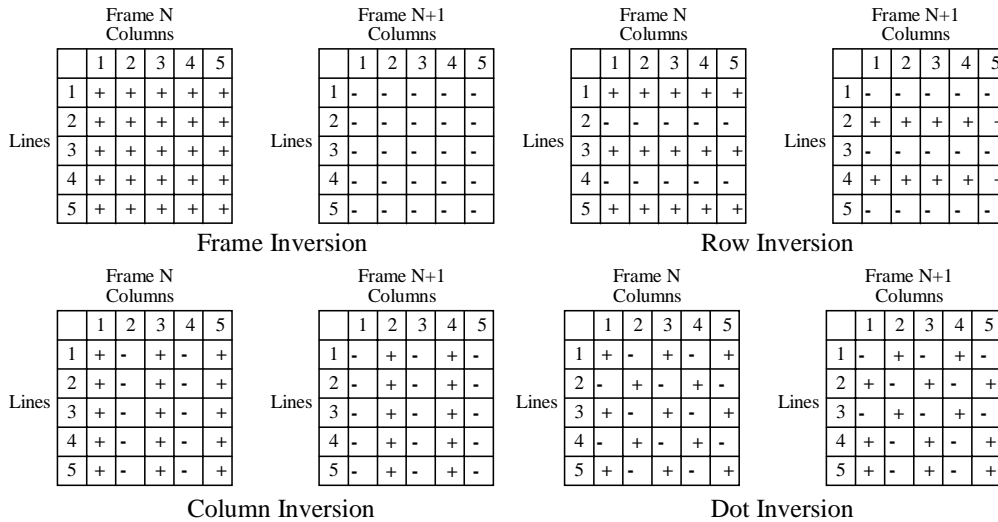

Figure 3-8 Various Inversion Schemes
- With different inversion schemes as shown in Figure 3-8, the severity of the flickering will be different.